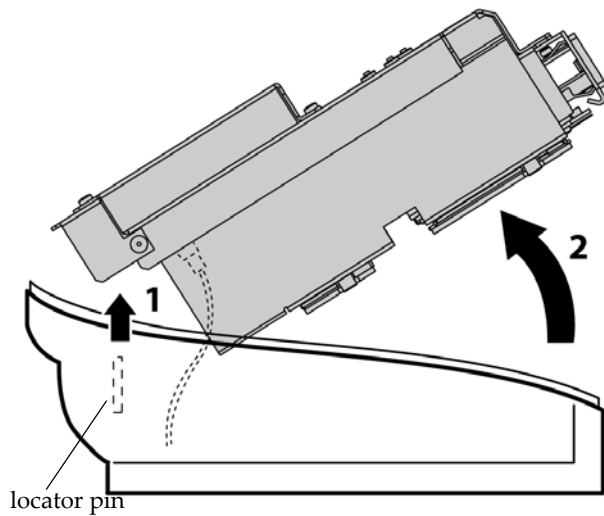
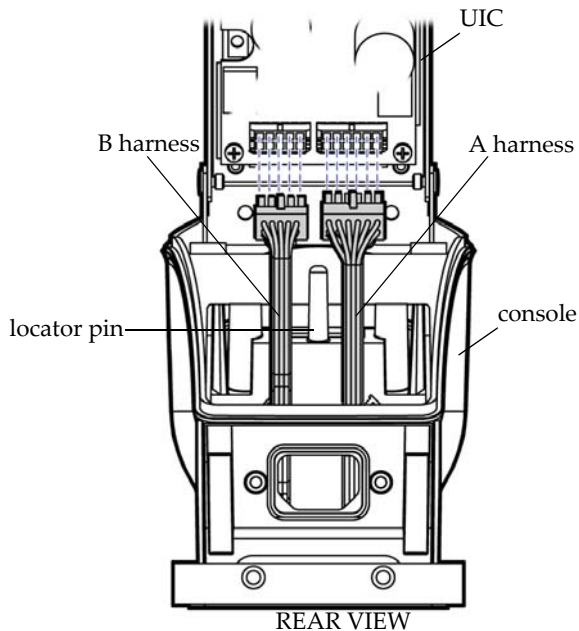
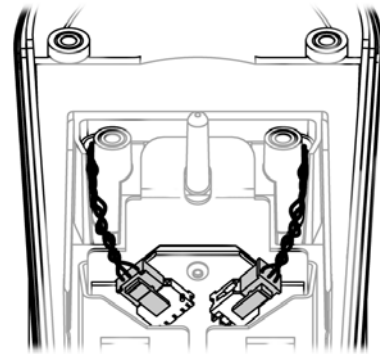

Figure 9-10: Lift or Lower UIC Over Locator Pin
Figure 9-11: Disconnect or Connect A and B Harnesses
Figure 9-12: Position Harnesses in Channel
6. Lift UIC straight up until clear of locator pin (refer to 1 in Figure 9-10).
7. Angle UIC upward from rear (refer to 2 in Figure 9-10) to expose UIC connectors to A and B CU harnesses. While pressing connector locking tabs, gently remove connectors to disconnect. Do not strain harnesses. See Figure 9-11.
4. To avoid crushing steering sensor harnesses, make sure harnesses are properly positioned in channel around UIC mounting bosses. See Figure 9-12.
6. Connect (2) CU harness connectors to front of UIC.
7. Orient hole in UIC over locator pin (refer to 1 in Figure 9-10) and lower UIC into console housing, taking care to fold harnesses into void without pinching.